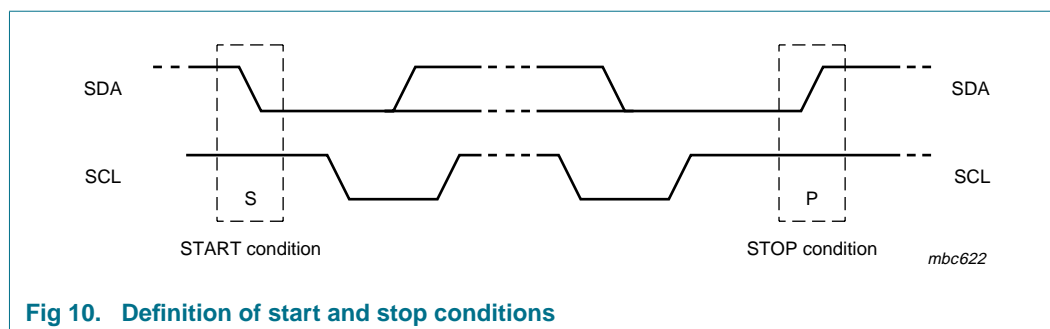

Fig 10. Definition of start and stop conditions
Both data and clock lines remain HIGH when the bus is not busy. A HIGH-to-LOW transition of the data line, while the clock is HIGH is defined as the START condition (S). A LOW-to-HIGH transition of the data line while the clock is HIGH is defined as the STOP condition (P); see Figure 10.